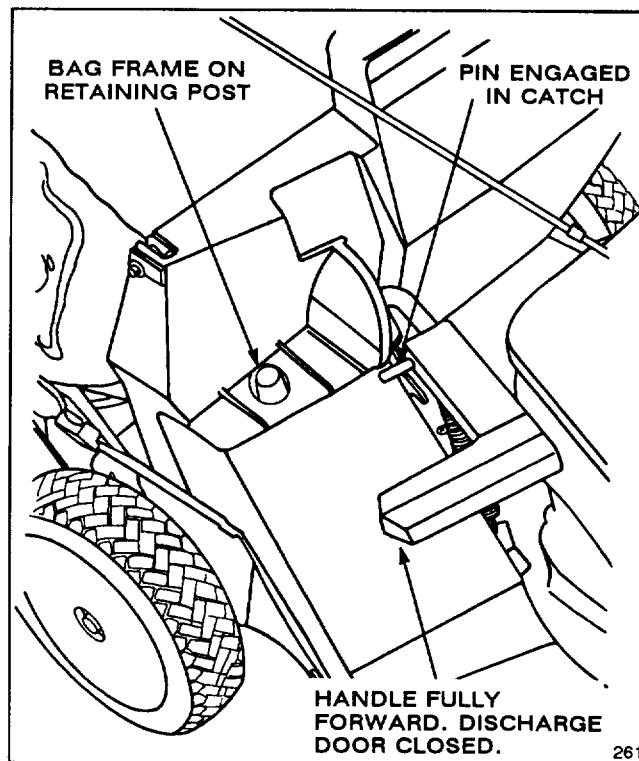

Figure 15
2. Ensure discharge door handle is fully forward and pin is engaged in catch (Fig. 15).
3. **INSTALLING BAG**—Slide hole in bag frame onto retaining post on discharge tunnel (Fig. 15). Set rear of bag frame onto lower handle.
5. **EMPTYING BAG**—Stop engine and wait for all moving parts to stop. Raise discharge door handle and move it forward to engage the locking pin with catch (Fig. 15). Grasp handles at front and rear of bag and lift bag off mower. Gradually tip bag forward to empty clippings.